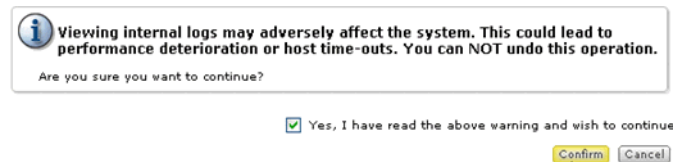

Figure 5-21: Show Internal Log confirmation
5. Click **Show Internal Log**. The Show Internal Log confirmation screen appears as shown in Figure 5-21.